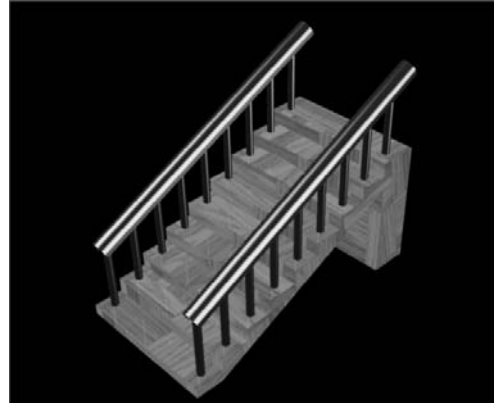

Figure 30-13 Rendered image of staircase
5. Choose the **Render** button from the **Render** toolbar to invoke the **Render** window. The rendering process starts and the rendered image is displayed in the **Render** window. The rendered image should look similar to the one shown in Figure 30-13.